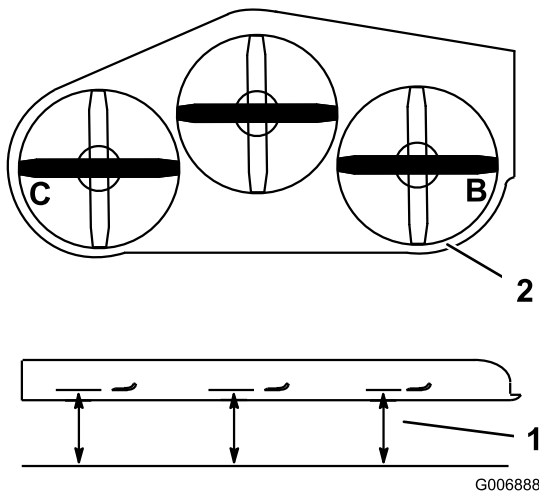

Figure 58
1. Position the **right** blade side-to-side (Figure 58).
2. Measure the right blade at the **B** location, from a level surface to the cutting edge of the blade tip (Figure 58).
4. Position the left blade side-to-side (Figure 58).
5. Measure the left blade at the **C** location (Figure 58), from a level surface to the cutting edge of the blade tip.